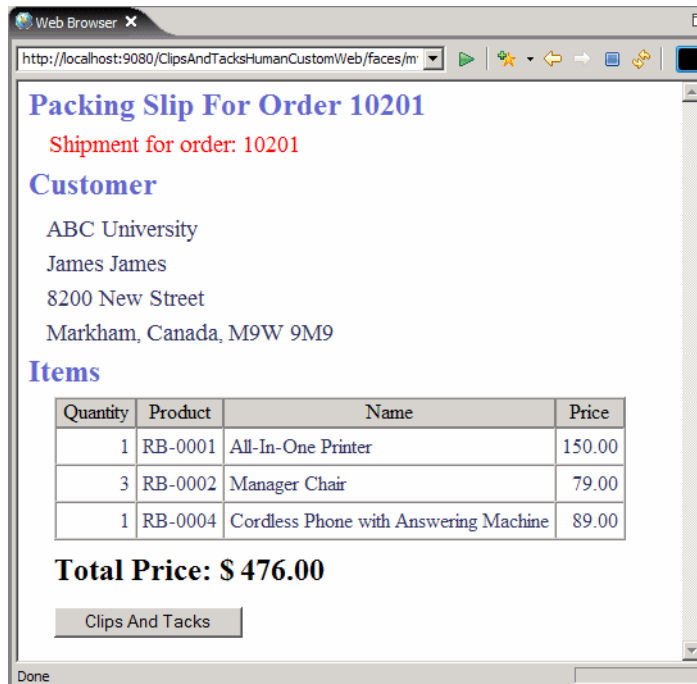

Figure 9-57 Human task application: Packing slip for shipped order
- ▶ Select an order and click *Complete*. The shipment is confirmed and the packing slip is displayed for printing (Figure 9-57).